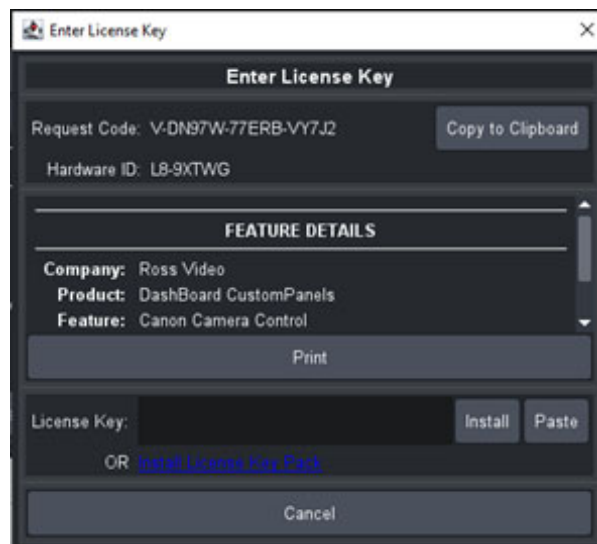

Figure 3 - DashBoard Licensed Features - Enter License Key
- ii. The **Enter License Key** dialog box opens. Refer to Figure 3.